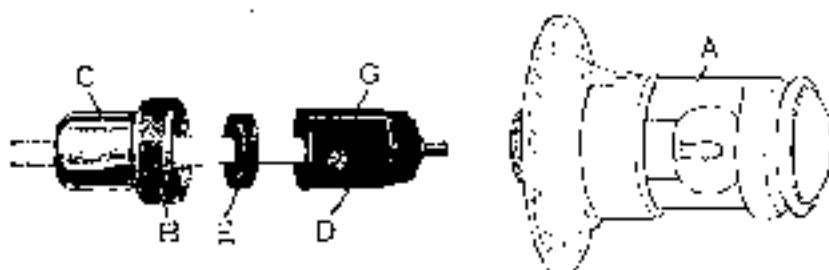

Fig. 6. Tail Lamp Type TF2.0.
**Tail-lamp.** The tail-lamp is fixed on to the car by means of a flanged base. To replace a bulb turn the front portion of the lamp "A" (Fig. 6) to the left and withdraw it from its base.